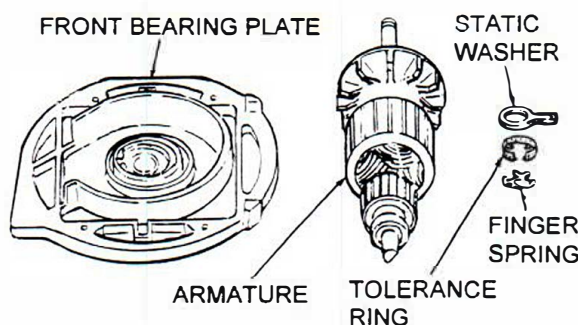

Figure 28. Front Bearing Plate, Armature Assembly, Static Washer, Tolerance Ring, and Finger Spring
- E. See Figure 28. If required, the retainer ring clip and front bearing can be removed from the bearing plate assembly by using T155 snap ring compressor pliers No. 0300.